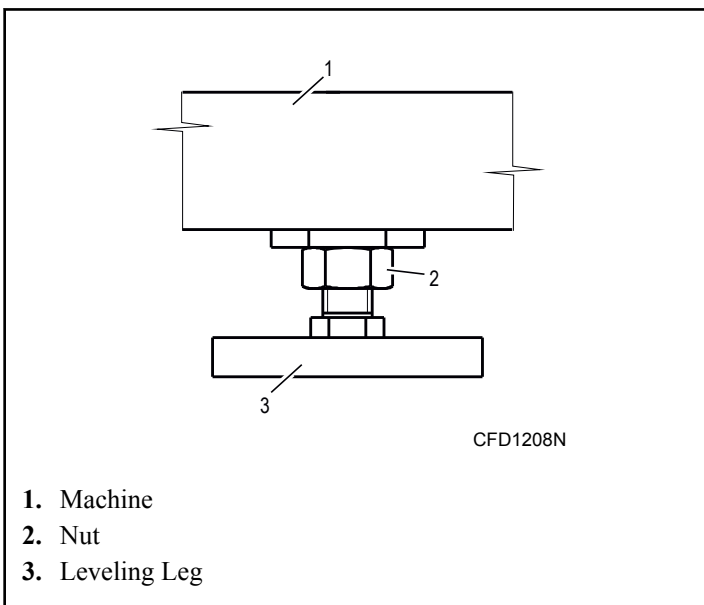

Figure 13
**IMPORTANT:** After leveling is complete, tighten the nut securely against the machine's base. Refer to *Figure 13* .